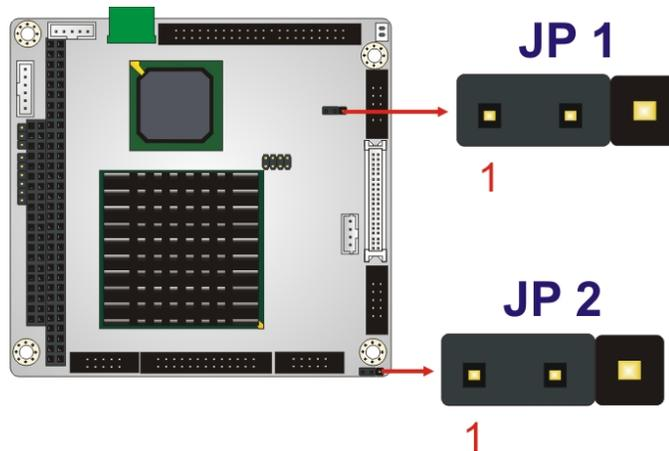

Figure 4-3: Jumper Locations
The PM-LX2-800 CPU board has two onboard jumpers (**Figure 4-3**).
- Jumper Location:** See **Figure 4-3**